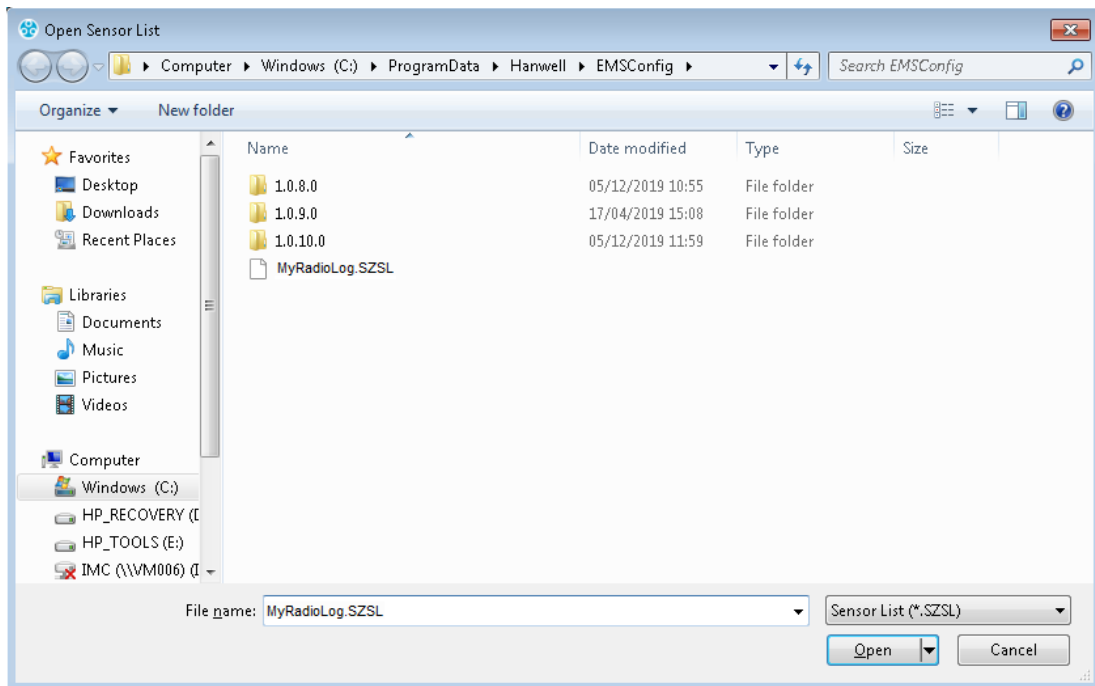

Figure 165
- The **Open Sensor List** window is displayed. See Figure 165 below: